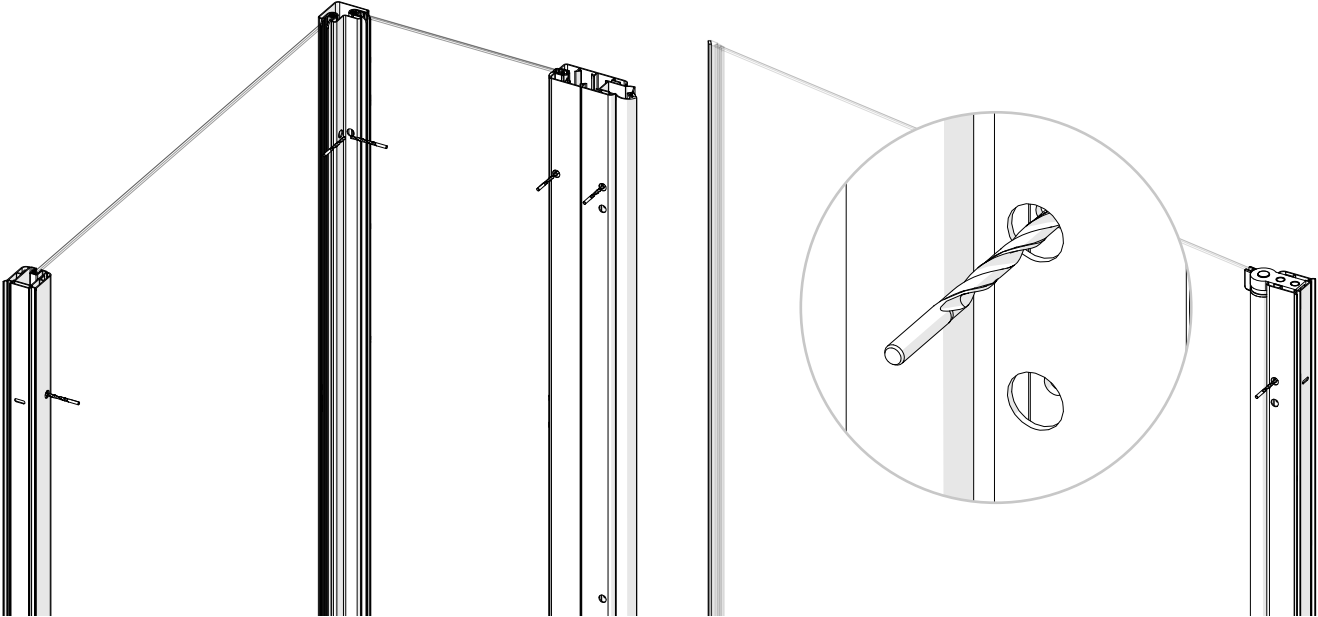

Fig. 3.3
- V. Drill 3.5 mm holes through the existing holes into the door(s), panel(s), and close-to. *Figure 3.3*